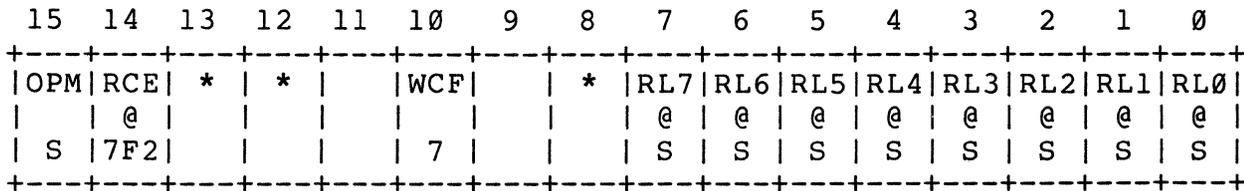

Figure 3-11 XST2 Register Format
3.3.2.7 Extended Status Register 2 (XST2) -- Extended Status Register 2 (XST2) appears as the sixth word in the Message Buffer stored by the TSV05 upon completion of a command or on an Attention (ATTN). Figure 3-11 illustrates the register format and Table 3-9 describes each bit. Note that the low-order 8 bits of this register have special meaning for the Write Characteristics command; unlike the TS11, there is no display of dead tracks, or residual capstan tick count.